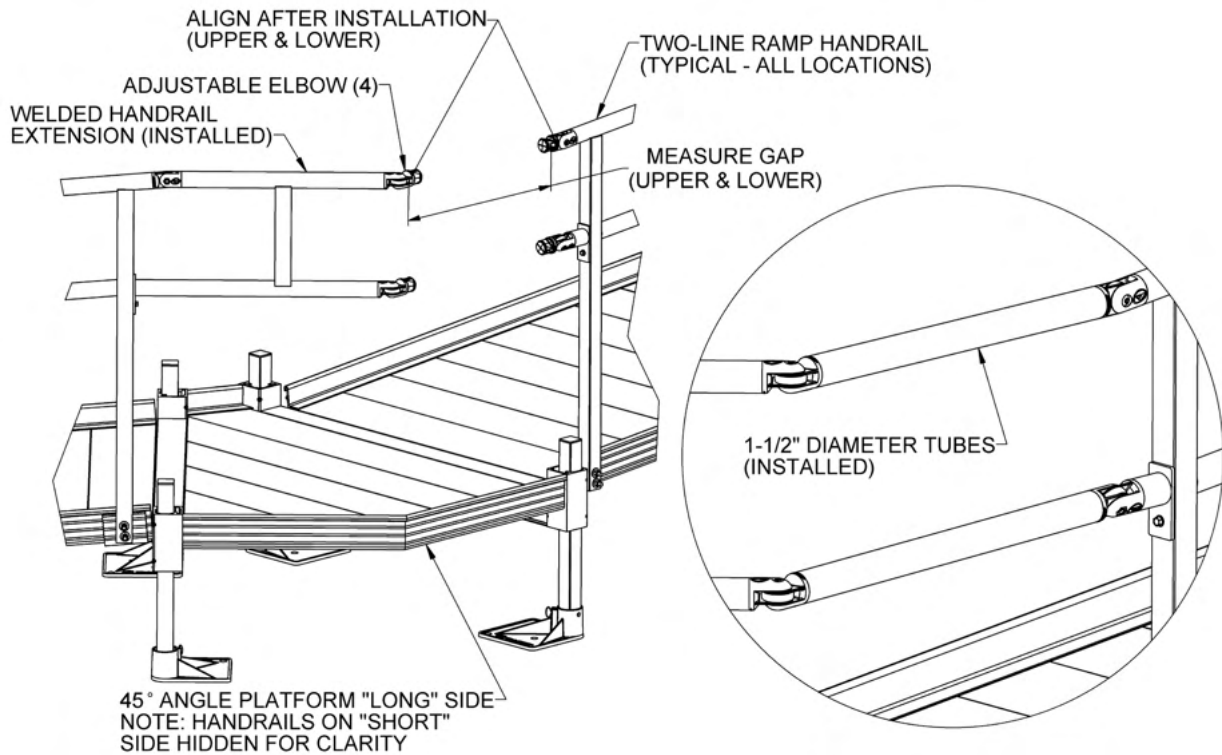

FIG. 4.14
- 4.6.12. Insert adjustable elbows into the open ramp handrail, the Bolt-On Stub Rail, and the open ends of the welded handrail extension (FIG. 4.14).
- 4.6.14. FIG. 4.14 shows the completed connection.